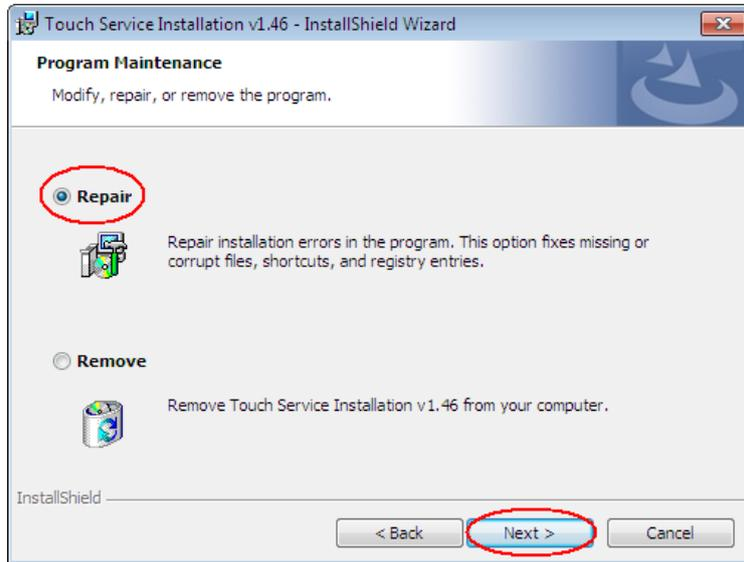
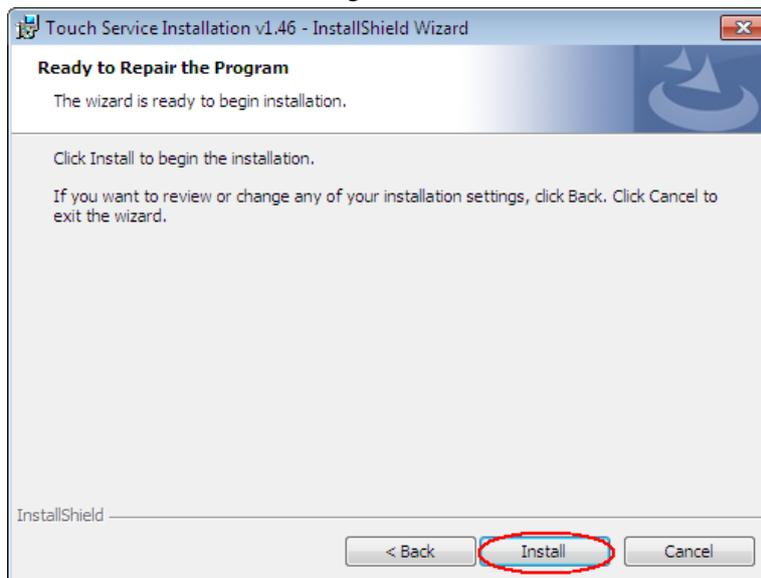

Figure 3-12
Figure 3-13
- 2) Click "Next" to Program Maintenance interface (Figure 3-12); select "Repair" to Ready to Repair the Program and click "Install"(Figure 3-13).